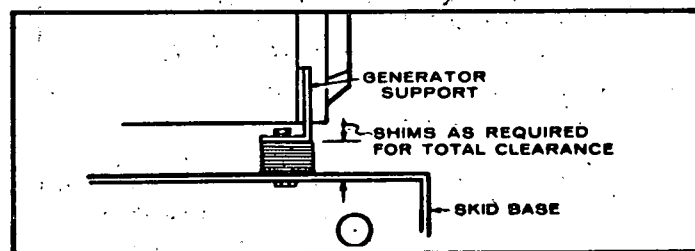

FIGURE 5.
4. Remove the jackscrews and install as mounting bolts through generator support, shims and skid base. Secure and lock the mounting bolts in place (Figure 5).